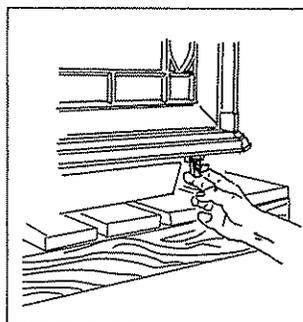

Figure 1.
Step 2. Disengage the two compression latches on the stove bottom by pulling each latch down and forward. Fig. 1.
Step 1. If you have not already done so, remove the Front Plate as shown on Page 7, Figs. 1 and 2.